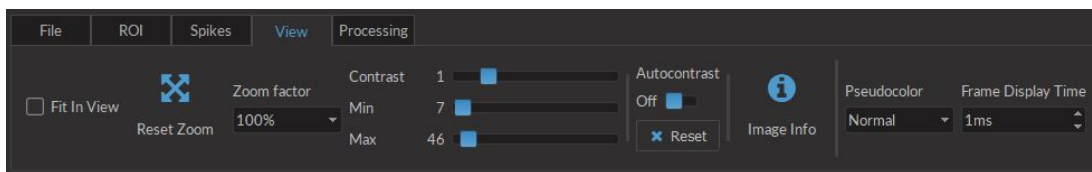

Figure 3.31: View Tab
4. The **View tab** (Fig. 3.31) is used to manipulate the appearance of an image without changing base data.